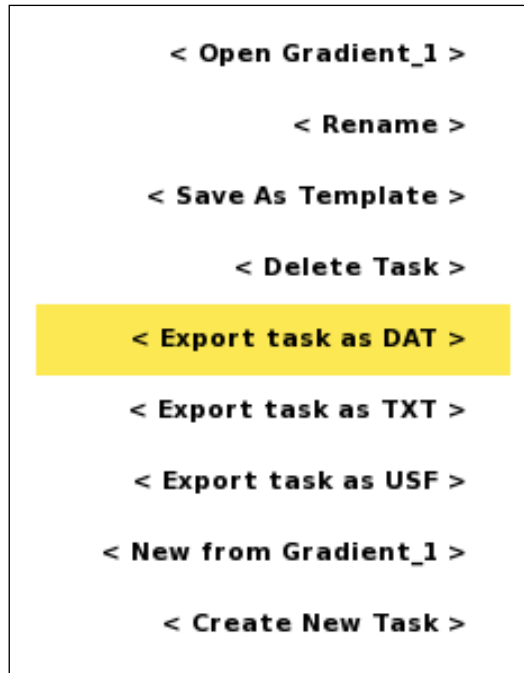

Figure 91 Task options menu
- Highlight <Export task as DAT> (Figure 91)